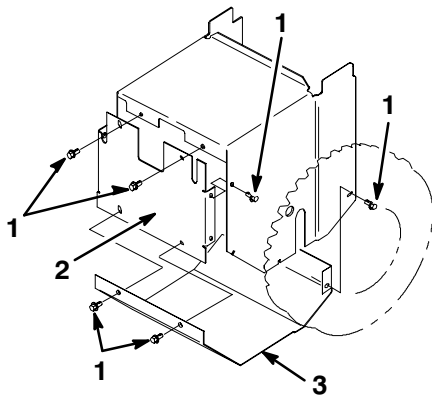

Figure 28
- Remove the eight screws that hold the back and the bottom covers in place and remove the covers (Fig. 28).